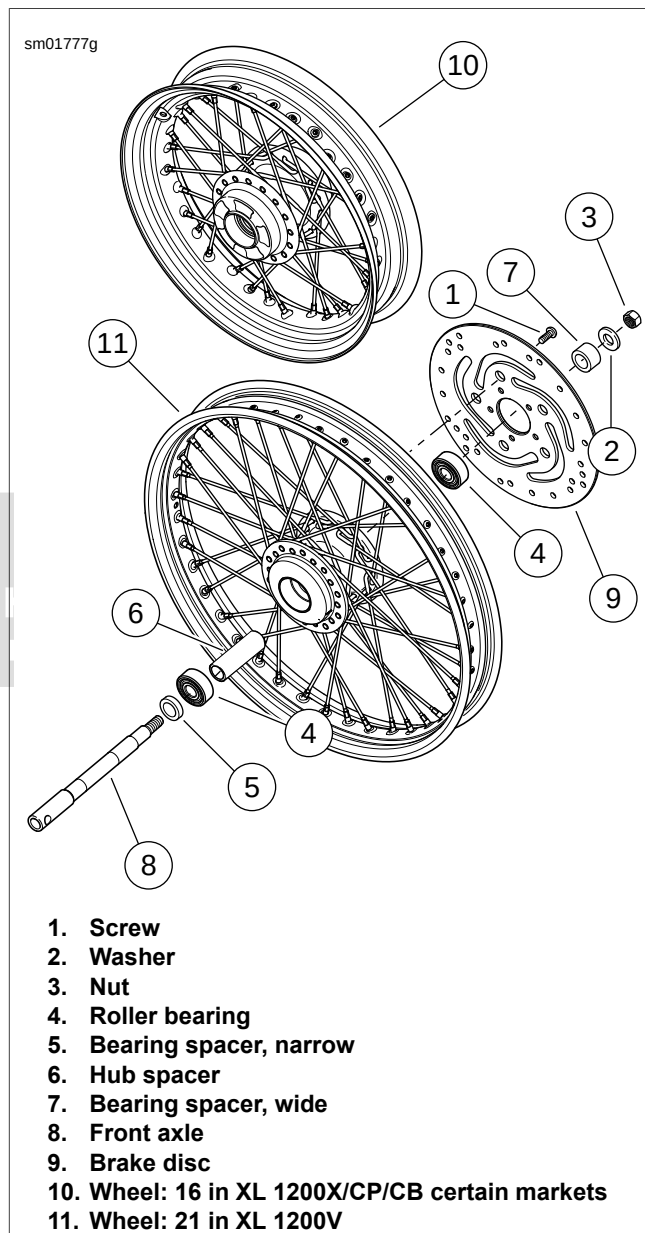

Figure 2-17. Laced Front Wheel
1. See Figure 2-17. If necessary, remove five screws (1) and brake disc (9).
2. If necessary, remove wheel bearings (4) and hub spacer (6). See 2.5 WHEELS, Sealed Wheel Bearings.
1. See Figure 2-17. Install hub spacer (6) and new wheel bearings (4) if removed. See 2.5 WHEELS, Sealed Wheel Bearings.